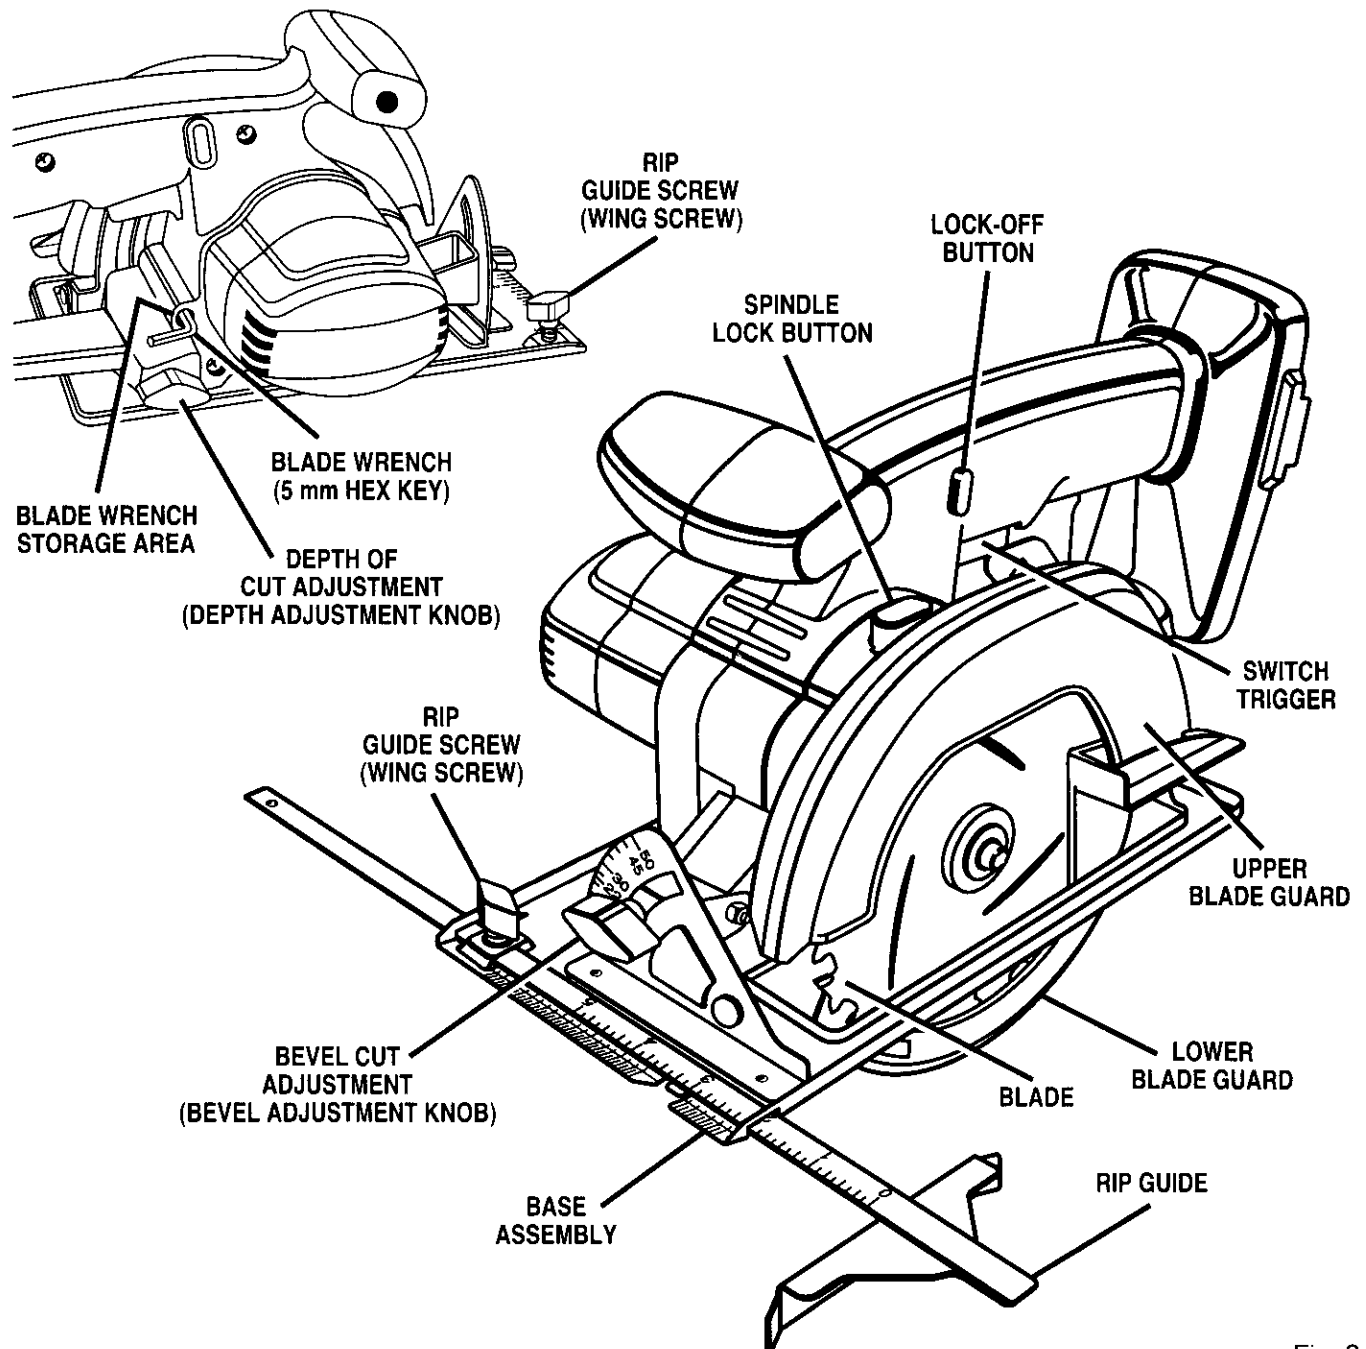

Fig. 3
See Figure 3.
- Remove blade wrench (5 mm hex key) from storage area. See Figure 3.